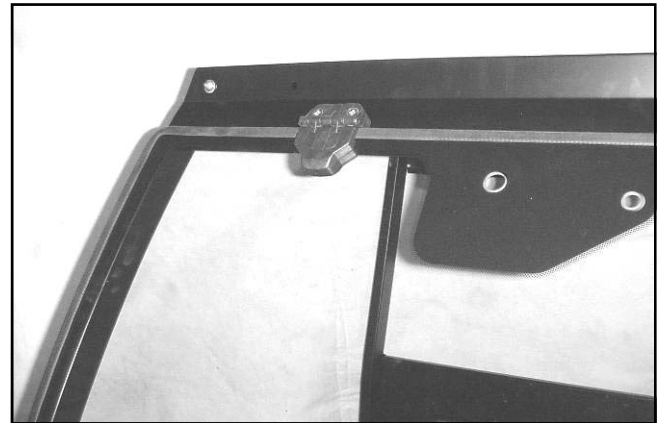

Fig. 13.2
13.2 With assistance, lift the windshield in place and install four steel washers and four locknuts. See figure 13.2.